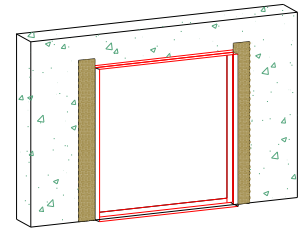

Figure 8
- b. If required for design pressure, fasten head, jambs, sill with screws in Table I and Fig. 8 for details.
B. At each jamb, embed the flashing paper into the sealant on the mounting flange and fasten into place. The flashing paper should be cut sufficiently long enough to extend at least 3 in. past the weep-screed or diado flashing and at last 6 inches above the head of the door. (See Fig. 8)
4. Insert the door into the opening and set the sill in a full bed of sealant (See Fig. 8). Cross-measure and adjust as necessary to achieve a plumb square and level condition, as well as an even reveal around the framed opening. Shim with non-porous, non-absorbent, inorganic shims where needed. Seal all fastener heads with compatible sealant. (Only drill holes through Sill as required for design load)